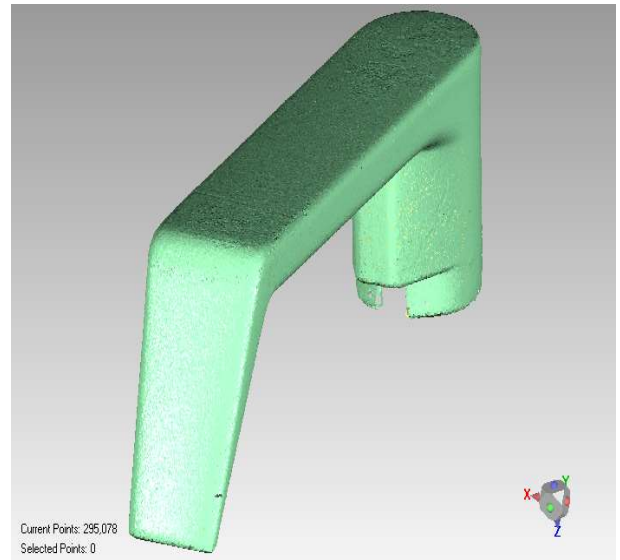

Figure 47
2. **Rotate** to the view shown in **Figure 47**.